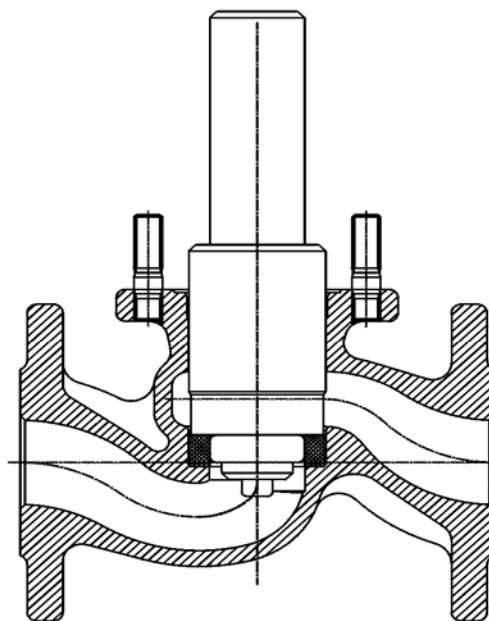

Fig.4
- Mount bottom valve ring using mounting tool (see Figure 4*))